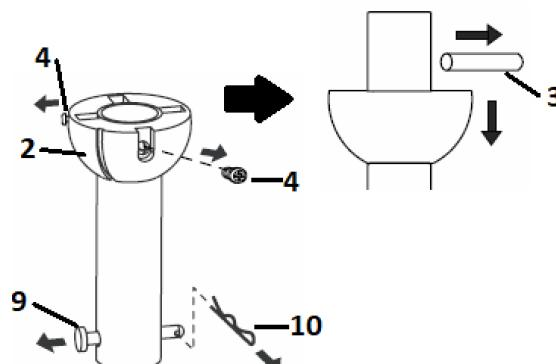

Fig. 6.1
1. Remove the ball joint (2) and dowel pin (3) by loosening the set screws (4) from the down rod (6). Remove the hitch pin (9) by removing the lock clip (10) (Fig. 6.1). **NOTE: Do not discard keep these parts, they are required to reassemble later.**